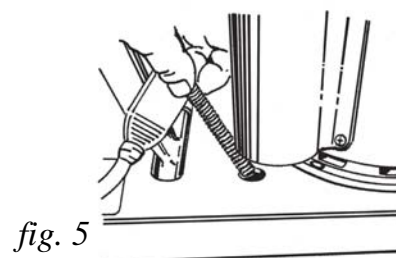

fig. 5
The base of the shampoo tank has a solution hose connected to it on one end. Insert the other end of the solution hose in the motor frame. (Figure 5)
1. Loosen, but do not remove the 4 bolts, that hold the motor to the frame. (Figure 5)